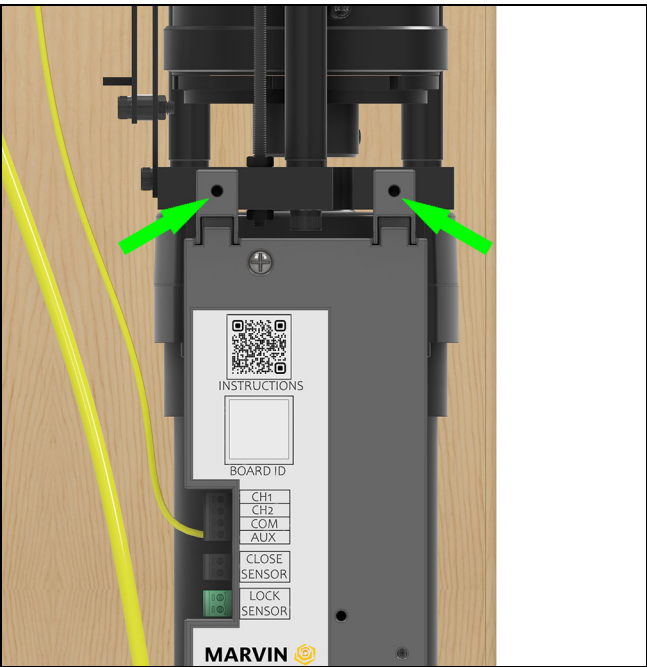

Figure 12 Green arrows pointing to threaded holes.
2. Line module up so that the holes align with the threaded holes under the single post of the motor. See Figure 12.